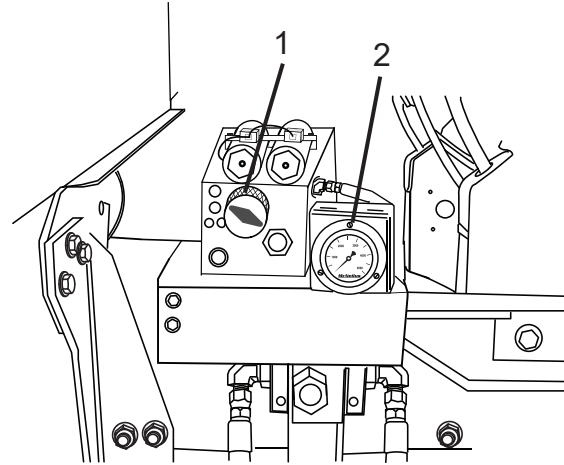

Figure 56
4. Once the pressure requirements have been determined, use the PRV knob (Figure 56, Item 1) to adjust the pressure to the required pressure. Pressure will be displayed on the gauge (Figure 56, Item 2).